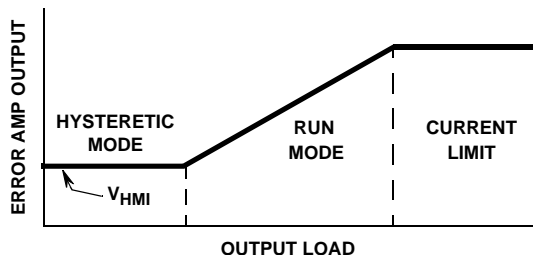

FIGURE 6. OPERATING MODES WITH THE ERROR AMPLIFIER CLAMPS
Limiting the error amplifier output voltage range provides both current-limit protection and a mechanism for setting the load current boundary between the Run and Hysteretic modes. Figure 6 shows the modes of operation as a function of the error amplifier output and load current. The error amplifier output voltage tracks the inductor current. The upper error amplifier clamp limits the peak inductor current which reduces the pulse-width (or duty factor). This reduces the output voltage with a constant current characteristic. The lower error amplifier limit sets the minimum inductor current. For load current demand below the minimum inductor current, the excess current adds charge to the output capacitor and the output voltage increases. The voltage on the feedback (FB) pin also increases and the converter operates in Hysteretic mode. The lower error amplifier limit is the voltage on the HMI (Hysteretic Mode Current) pin. The HMI level (V_{HMI}) sets the Run-to-Hysteretic mode load current boundary.